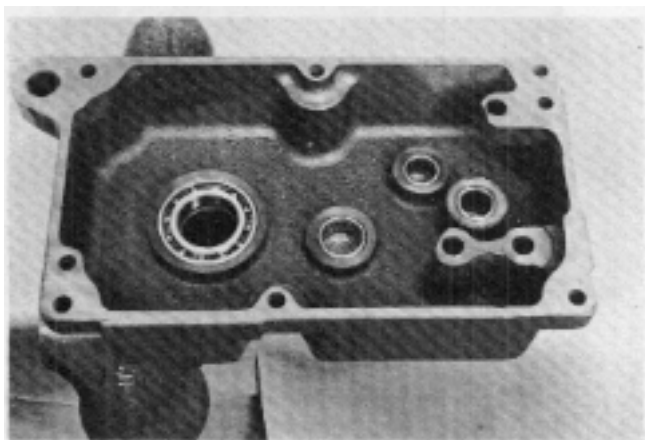

FIGURE 10
16. If it is desired to replace the case bearings they may easily be removed and installed with suitable arbors. When replacing bearings they should be pressed in so that they are flush with the inside of the case, as shown in Figure 10.